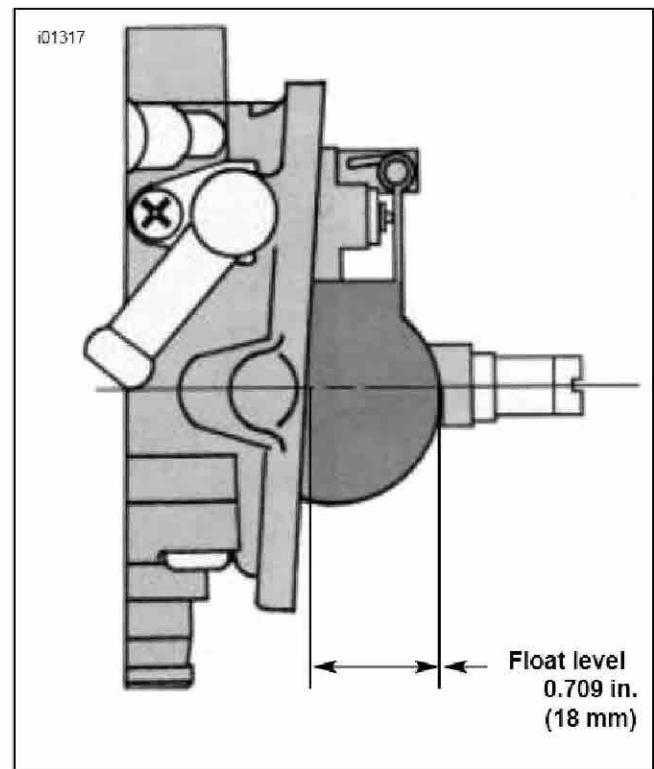

Figure 11. Checking Float Level
6. Before installing float chamber body (70), reach in bore of carburetor and with finger press accelerator pump nozzle (58) downward and remove. Replace O-ring (59) with new one from kit. Replace accelerator pump rod boot (76) with new one from kit.
7. See Figure 11. Check float level with carb in position shown. The actuator tab should just begin to contact the needle valve assembly when the bottom of the float is 0.709 in.(18mm) from bottom surface of carb.
9. Install new float bowl packing (gasket) in float chamber body (70). Align holes in float chamber body with pins on carb body and secure with four new screws (74) from kit.